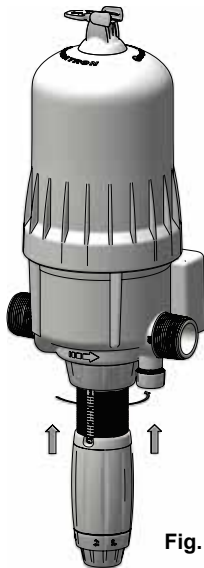

Fig. 5
- Manually retighten the fixing nut on the dosing assembly (**Fig.5**).